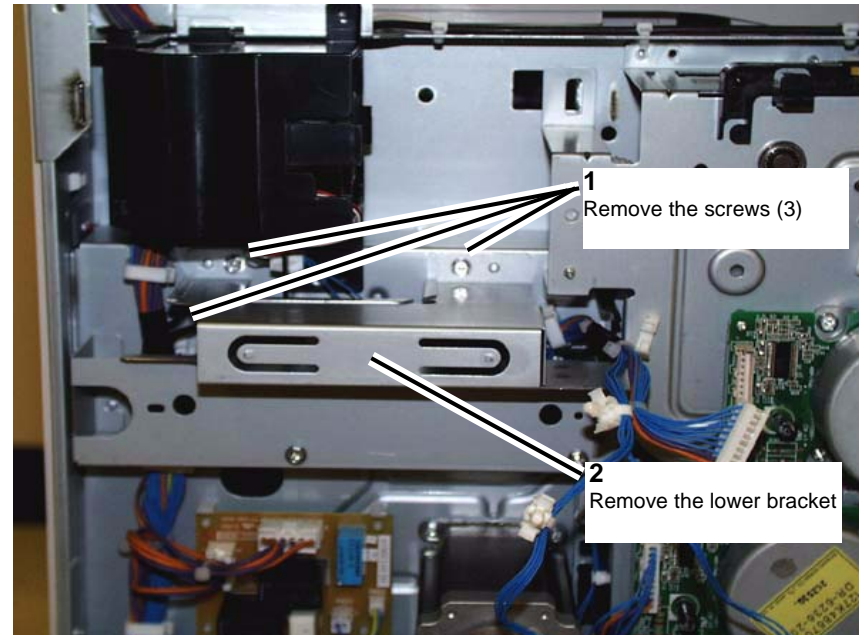

Figure 4 Removing the lower bracket
8. Remove the screws (3) and remove the lower support bracket. (Figure 4)